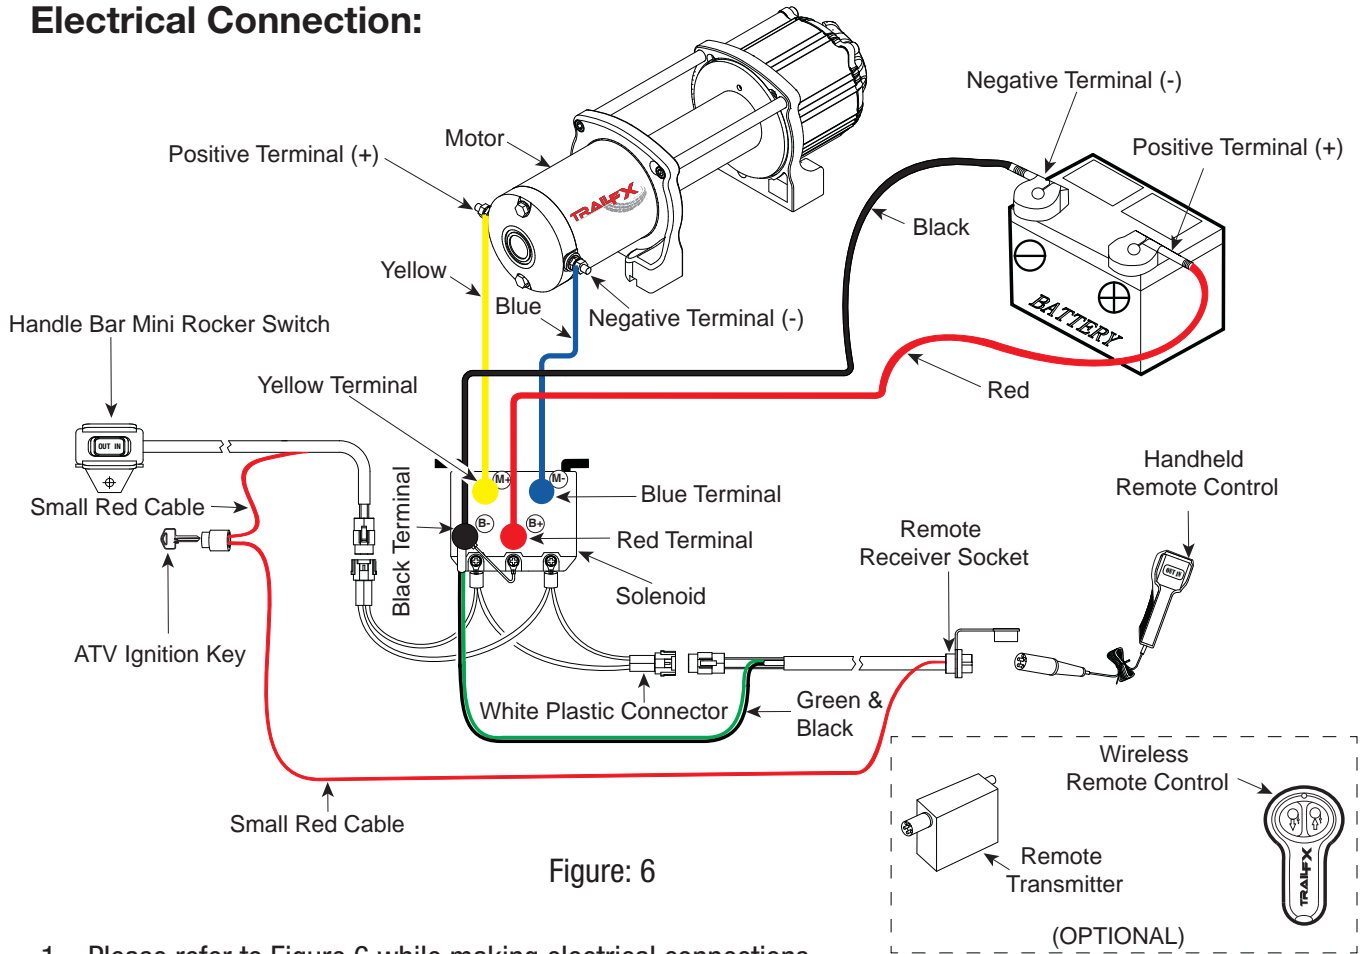

Figure: 6
1. Please refer to Figure 6 while making electrical connections.